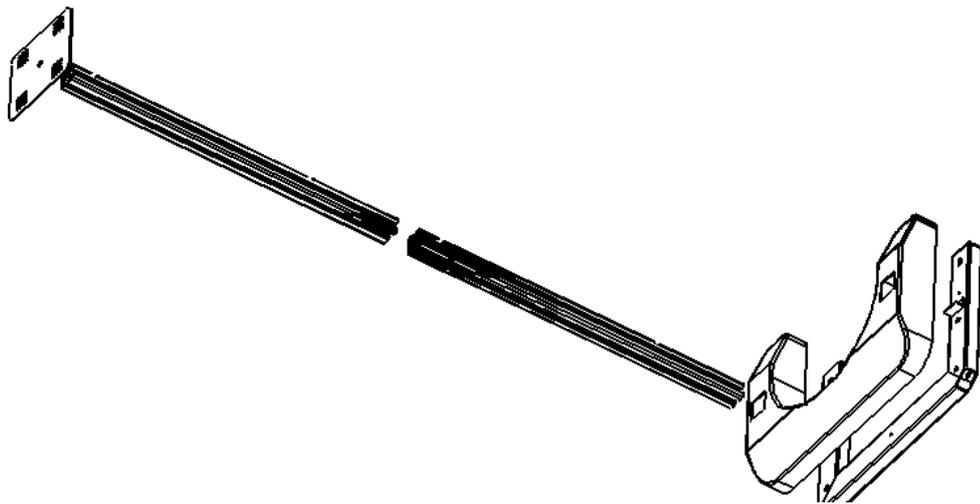

Figure 8
- 12) ⑧The installation of the projector base parts(See figure 8)